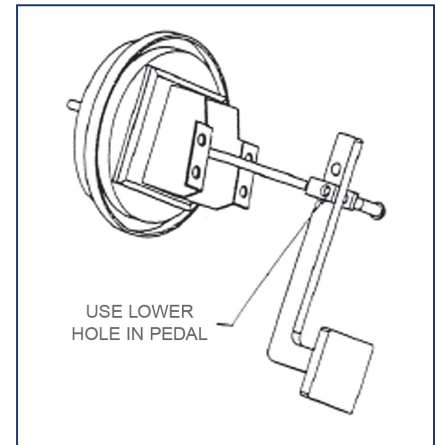

FIGURE. 7
3. Mount the booster to the fire-wall with the existing studs or bolts. Place the clevis assembly into the lower hole in the pedal and install the pin and clip (See Figure 7).